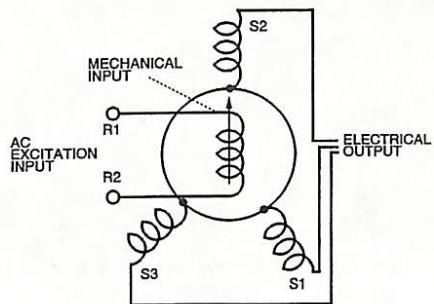

Figure 1. Synchro Generator
Basic synchro. The electrical representations of basic synchros (Figures 1 and 2) are similar to those of three-phase AC generators. They also look a little like a "wye" (Y) transformer: they have three windings spaced 120° apart, and they also have a movable coil in the center. The movable coil, or rotor, can function as either the primary or secondary winding in relation to the wye portion, or stator, depending on how the synchro is used. The rotor serves as the primary, with the stator as the secondary, when the synchro is used as a synchro-generator (G) or synchro transmitter (TX). The stator serves as the primary, with the rotor as the secondary, when the synchro is used as a synchro-motor (M) or synchro receiver (TR). In either case, the 0°, or "null," position occurs when the rotor winding's axis is directly in line with stator winding 2 (S2).